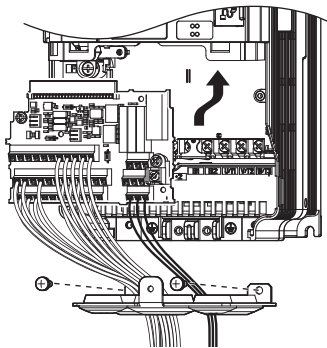

Figure 7.46 Drive Replacement: Installing the Control Terminal Board
- After wiring the main circuit, connect the terminal block to the drive as shown in Figure 7.46. Use the installation screw to fasten the terminal block into place.